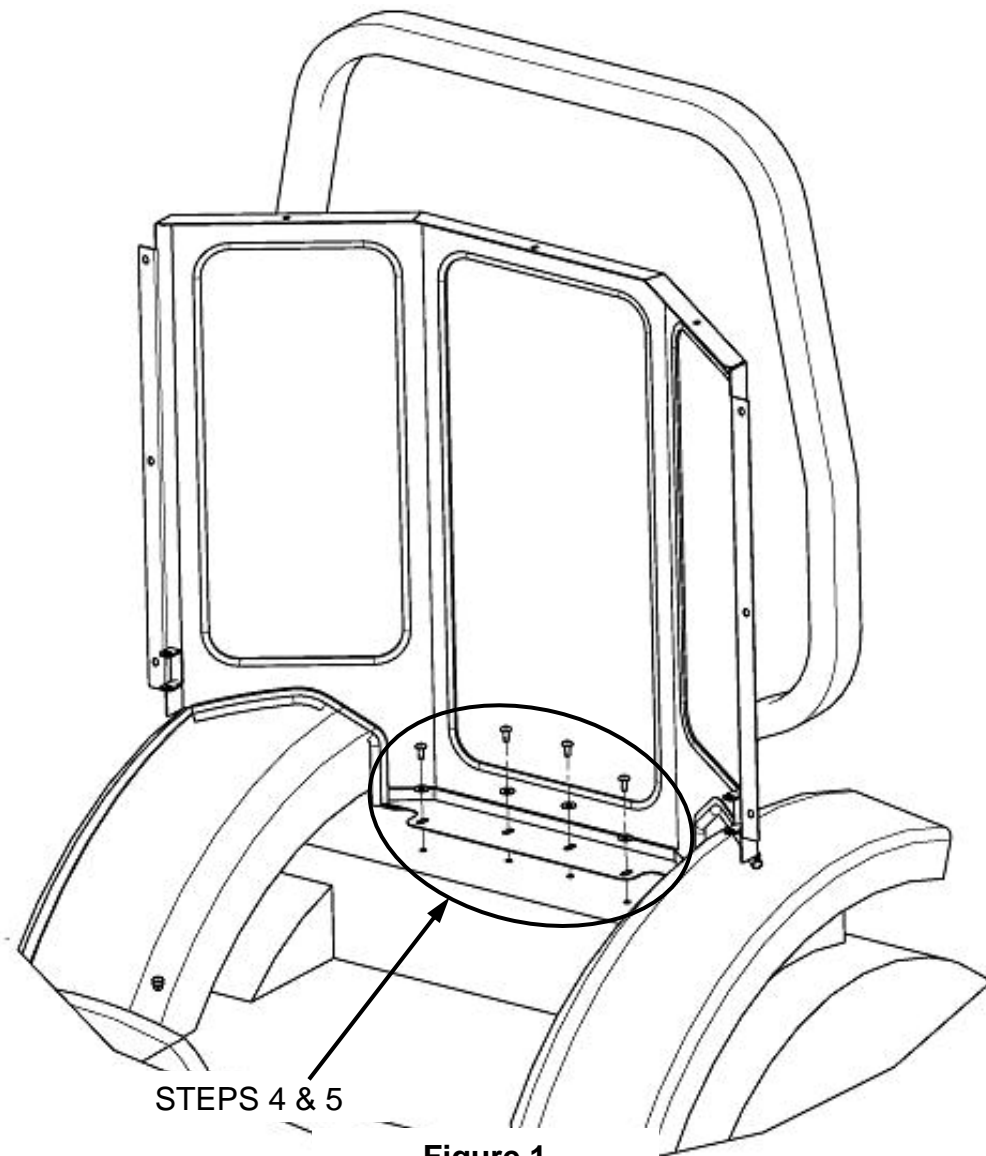

Figure 1
5. Place rear window assembly behind tractor seat onto top rear support plate. Secure using (4) 8mm x 25mm long hex head bolts with (4) 5/16" flat washers. See figure 1.